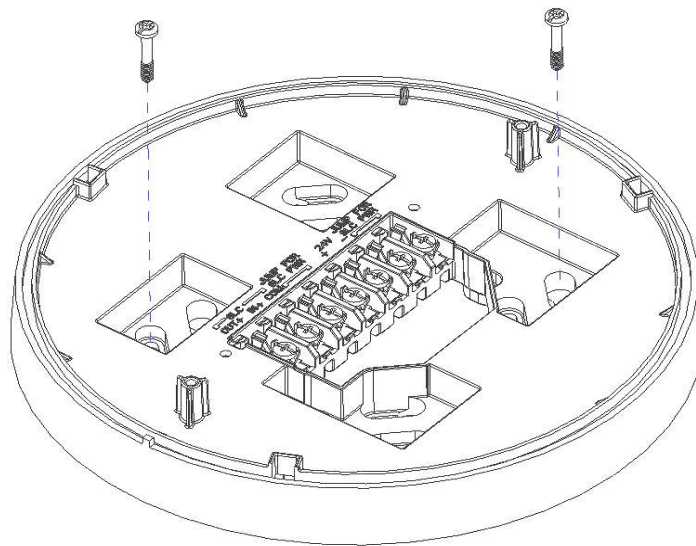

Figure 3.2 Mounting Plate
2. Mount the mounting plate to the junction box or ceiling. See figure 3.2.